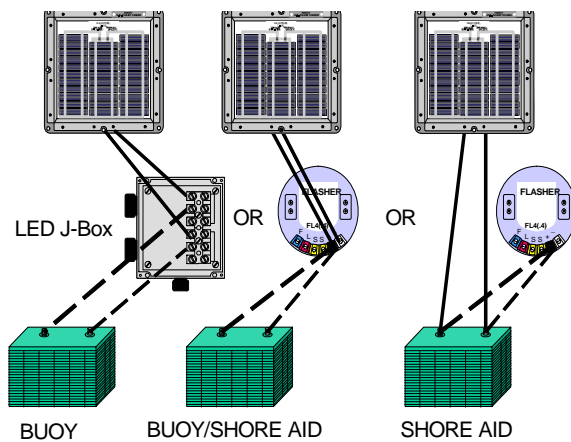

Figure 2-7
- g. The battery may be wired, as shown in Figure 2-7, whichever is convenient.